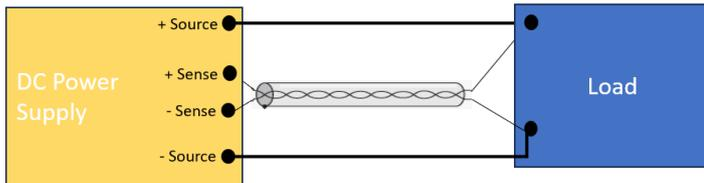

Figure 7. Another option for avoiding oscillation in some circuits: shielded, twisted pair, remote sense wires separate from the source wires.
- Another option is to separate the source and sense wires as shown in Figure 7. Using twisted pair wire minimizes loop area and minimizes induced voltage in the sense lines. In addition, use shielded, twisted pair wire to keep external electromagnetic interference (EMI) out of the sense lines.